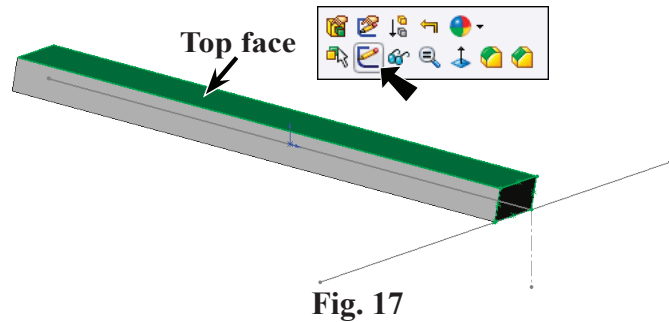
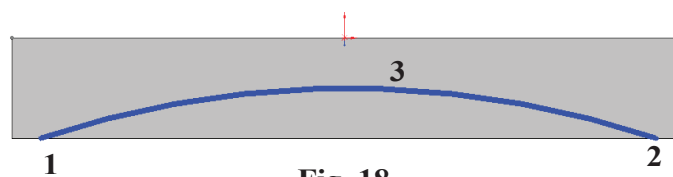

Fig. 17
Fig. 18
Step 1. Click **top face** of the member and click **Sketch**  on the Content menu, **Fig. 17**.
Step 3. Click **3 Point Arc**  (S) in the **Arc flyout**  on the Sketch toolbar.
Step 4. Draw 3 Point Arc between Points 1, 2 and 3 across bottom of member, **Fig. 18**.
Step 5. Click **Smart Dimension**  (S) on the Sketch toolbar.